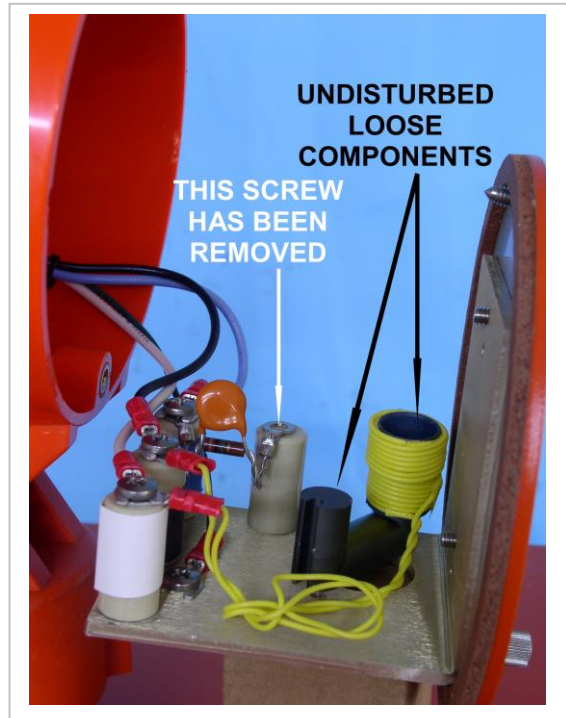

Figure 14b
- Lift the HV secondary coil away from the bottom half of the ferrite core (Figure 14b).